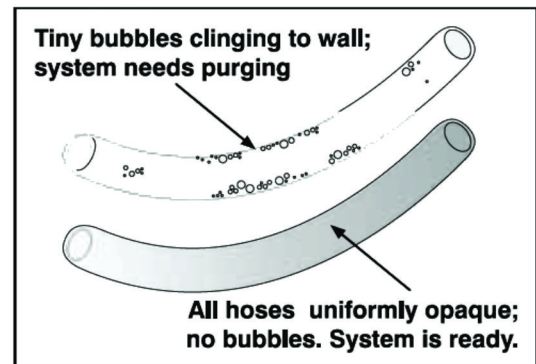

**Figure 3 Refill the System & Prime all Hoses to Eliminate Air Locks**
- Prime/Purge of Air:** Power up the projector (no lamp). Manipulate or “prime” all coolant hoses by flicking, pinching and raising them as necessary (**Figure 3**) to keep liquid moving and flowing to-and-from the pump. You must purge the system of all air, otherwise the coolant will not flow properly and may cause the DMDs to overheat. **NOTE:** *The coolant in the reservoir disappears into the system immediately after the pump has been started. You must continually refill the reservoir until the coolant level stops falling.*